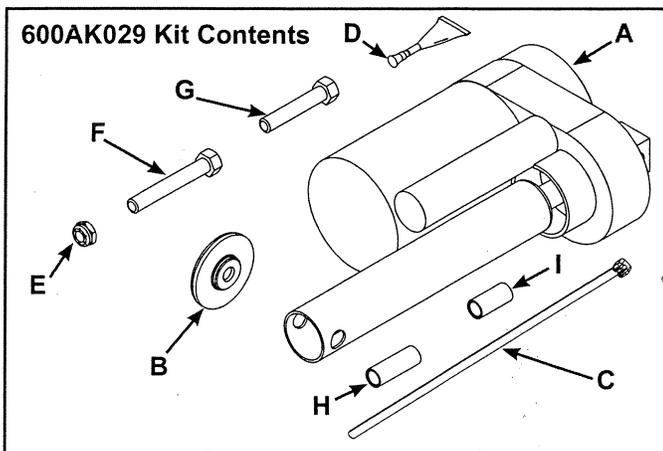

Figure 1a
- 9/16" Open-end wrench (2)
2. Verify 600AK029 kit contents. See Figure 1a.